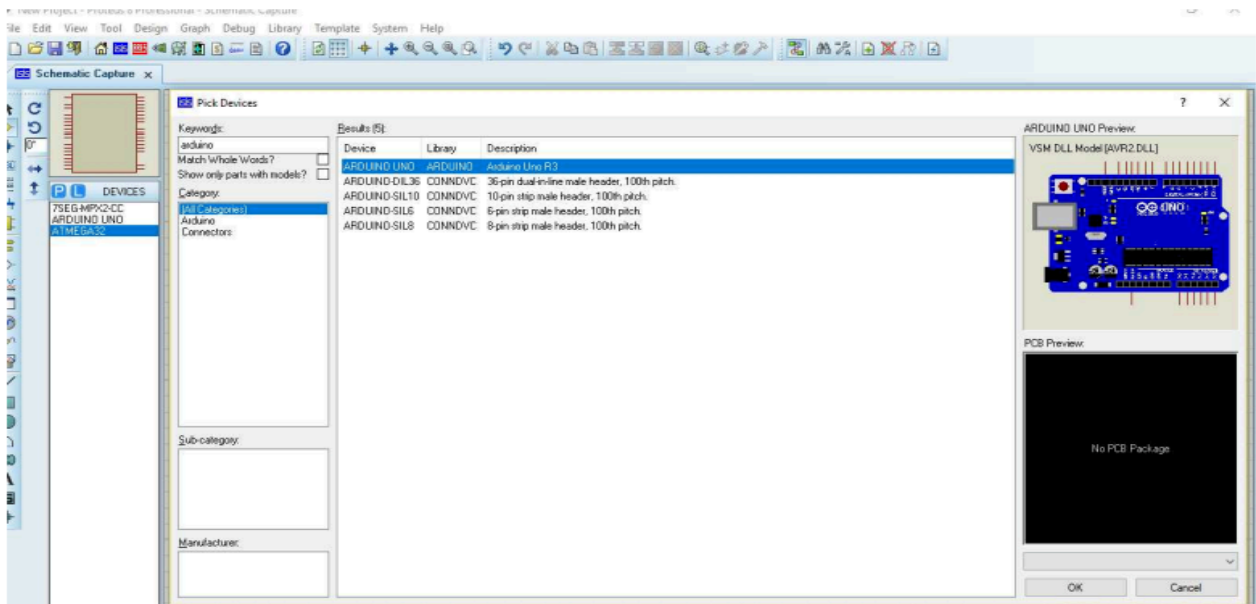

Fig 7: Choosing Arduino board from proteus parts
Step 2: Now open Your Proteus and Search Arduino as shown in figure 7.